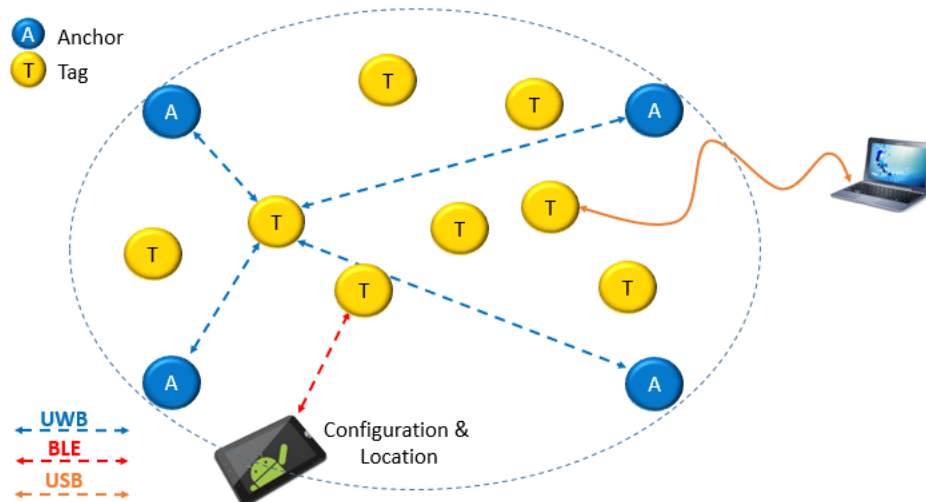

Figure 6: System Configuration Option: 4 Anchors, 8 Tags & PC logging
- A tag can also be connected to a PC as shown in Figure 6